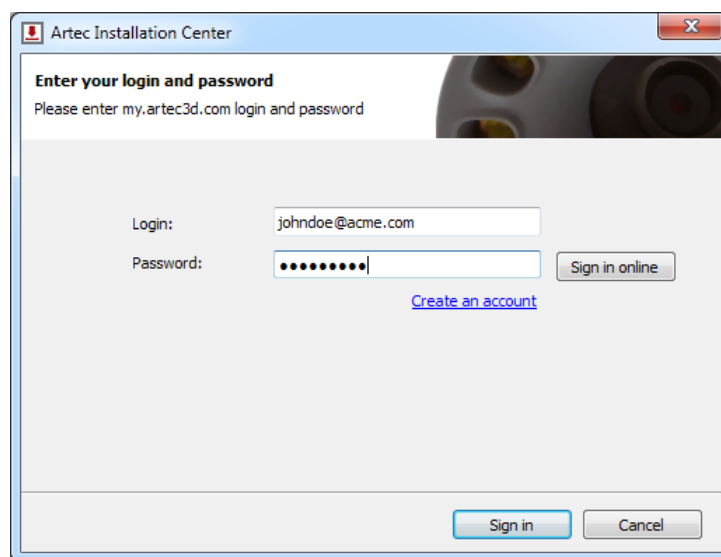

Figure 4.2.: Authentication for Artec Installation Center
2. After downloading, open the folder that contains the executable and run it. Follow the instructions on the installation screens. Once Artec Installation Center is installed, you will see a dialog requesting your username and password. Use your *my.artec3d* account to log in as *Figure 4.2.* shows.
If you have yet to install Artec Installation Center, a login dialog will appear, as Figure 4.2. shows. If you are not connected to the Internet, consult Offline Activation regarding offline activation of Artec Studio.